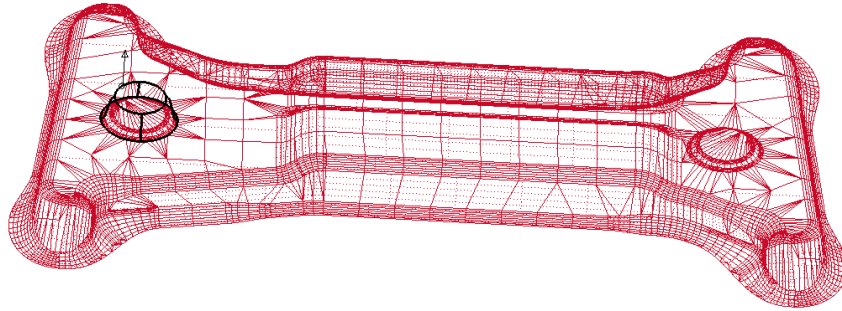

Figure 6.5.6 Boss Outline after Morphing
- Click on the MORPHING button and then move the cursor to the top of the boss. Hold and drag the left mouse button up and down to form the morphed boss outline, as shown in Figure 6.5.6.